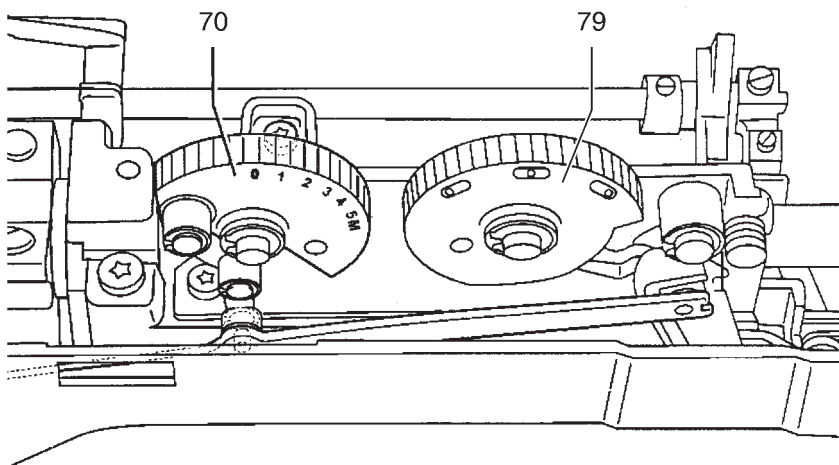

Fig. 48
- Rotate setting eccentric 16 to the left and to the right, until the needle is centered in the needle slot (fig. 48).